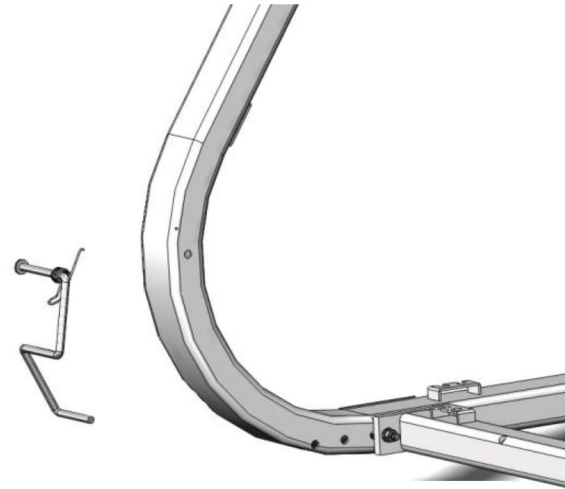

Figure 6 – Handle & end frame
5. Assemble the supplied handles to the end frame using (2) nylon washers, springs, and 3/8" push caps. Install the handle in the hole provided on the Soccer goal end frame (Figs. 6 & 7).